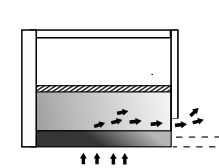
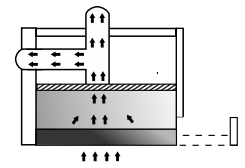

Fig.12
Fig.13
- The hood may be installed in the filtering (Fig.12) or the ducting version (Fig.13).
Ducting version (Fig.13):